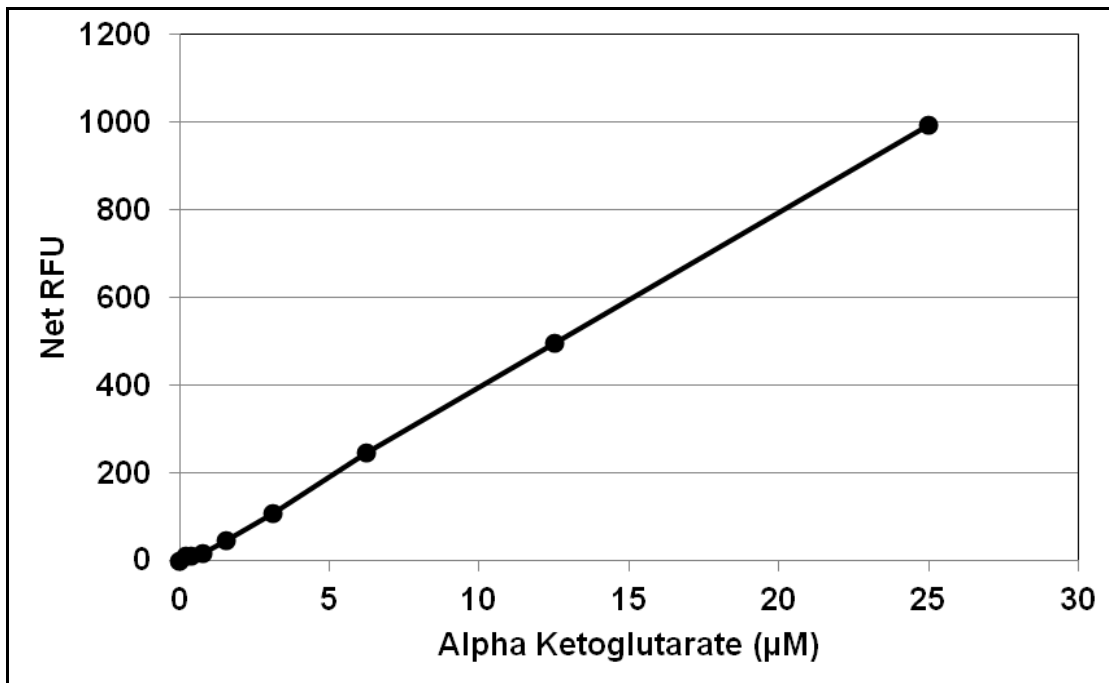

Figure 2: Example α -Ketoglutarate Standard Curve.
3. Plot the corrected fluorescence for the standards against the final concentration of the α -Ketoglutarate standards from Table 2 to determine the best curve. Use the 60-120 minute reading values, or final time point fluorescence values, to plot the α -Ketoglutarate standard curve. See Figure 2 for an example standard curve.